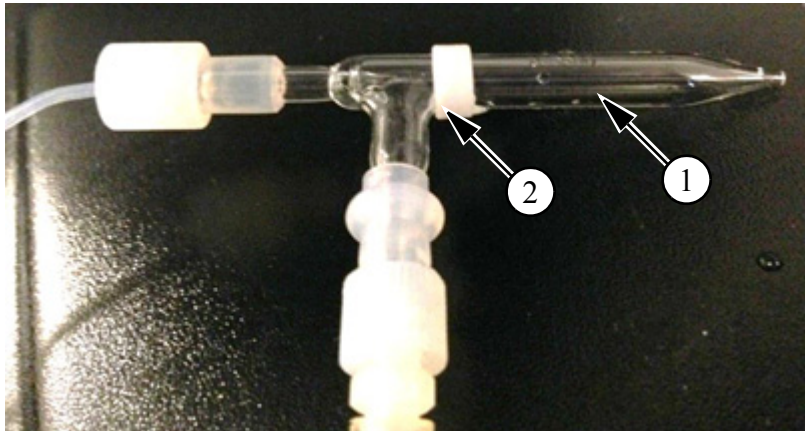

Figure 5-29 Concentric Glass Nebulizer Assembly
1. The spacer must be installed on the concentric glass nebulizer assembly. See Figure 5-29.